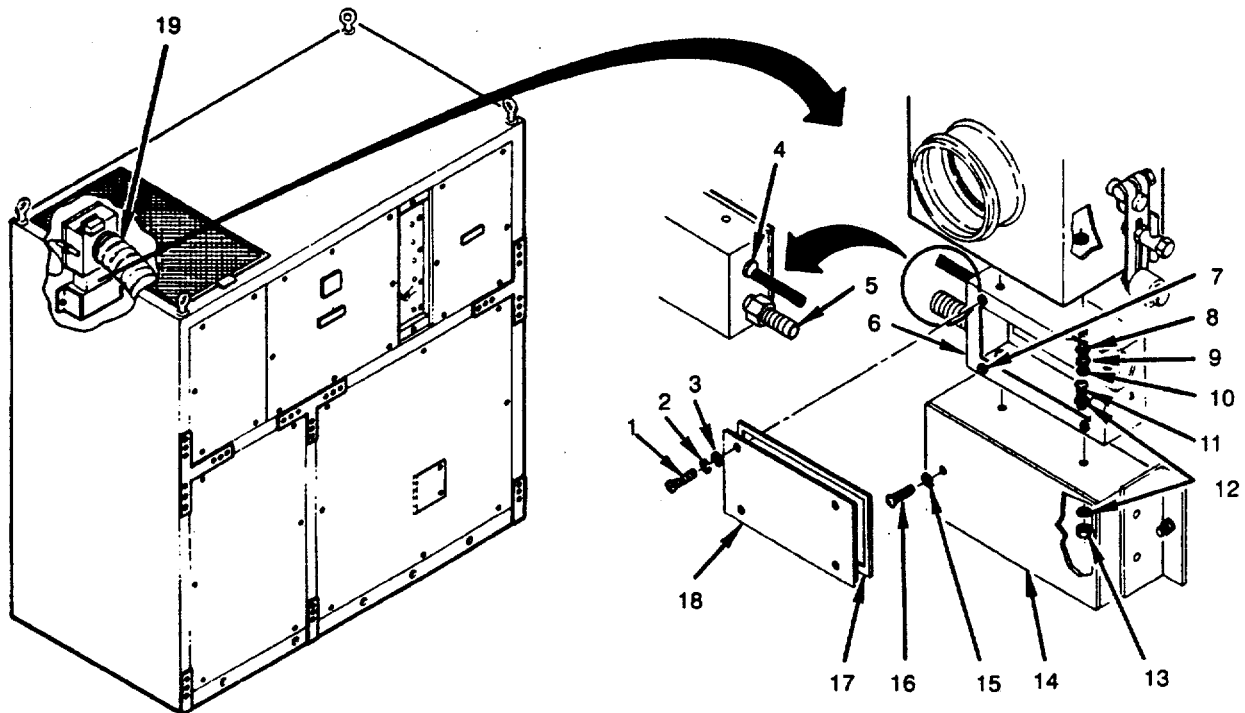

Figure 4-36. Control Wire J-Box
1. Check that box (6) is not bent, cracked, or punctured (see Figure 4-36).